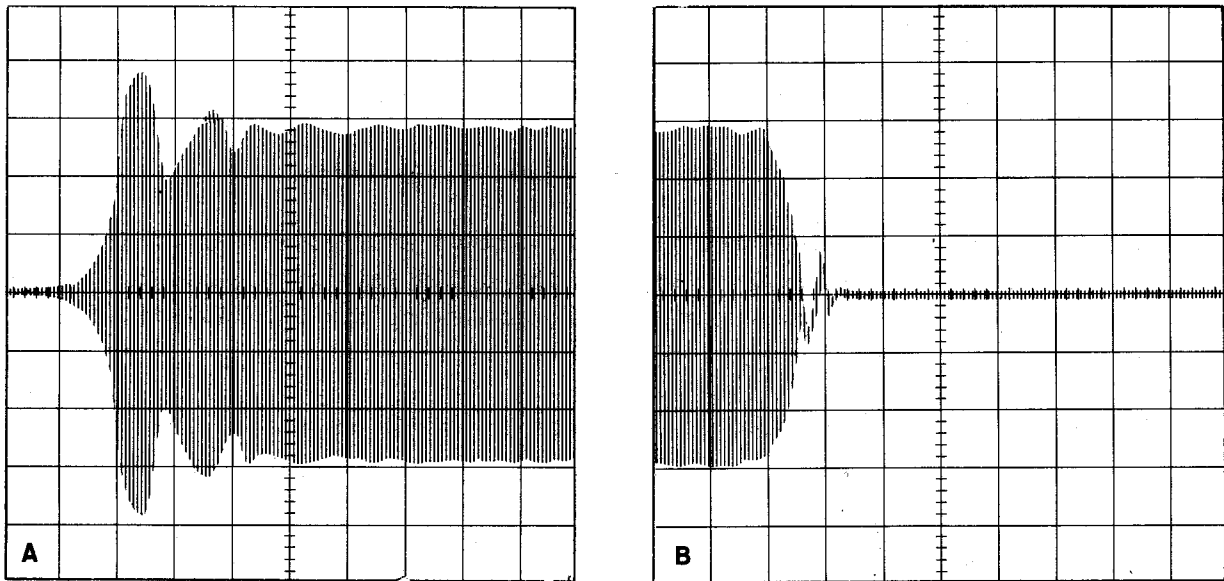

Figure 4-5
Step 3: Program the transport at a convenient rate in the AUTOMATIC mode. The oscilloscope will display the forward start time characteristic of the tape transport, which should resemble Figure 4-5(a). Start time, as determined from the oscilloscope display, should be under 2.0 milliseconds. If this specification is not met, adjustment of the forward capstan roller gap will be required, as detailed in paragraph 4-13 below.
Step 4: Readjust the oscilloscope to trigger on a negative pulse. The oscilloscope will now display the forward stop time characteristic of the tape transport, which should resemble Figure 4-5(b). Stop time of the transport should be under 1/5 milliseconds. If this specification is not met, adjustment of the forward tape brake, as detailed in paragraph 4-13 below, will be required.
(2) 1,5ms